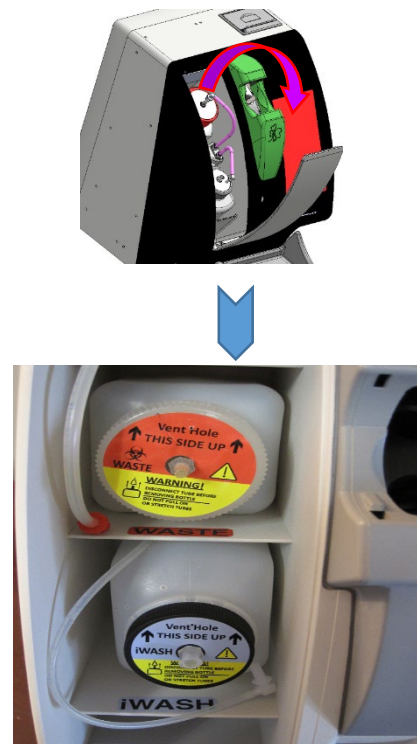

Figure 1B
5. Disconnect the rapid connect tubing attached to the Waste and Wash containers and remove these containers from the Bottle Bay as shown in Figure 1B.